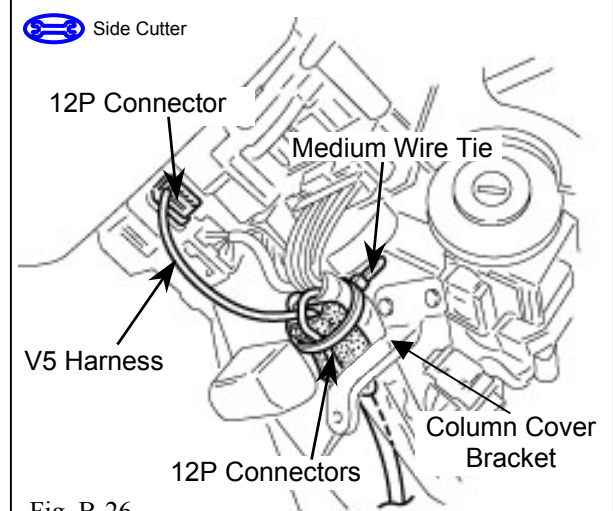

Fig. B-26
39. Secure the 12P connectors and V5 harness to the vehicle harness with one medium wire tie. (Fig. B-26)